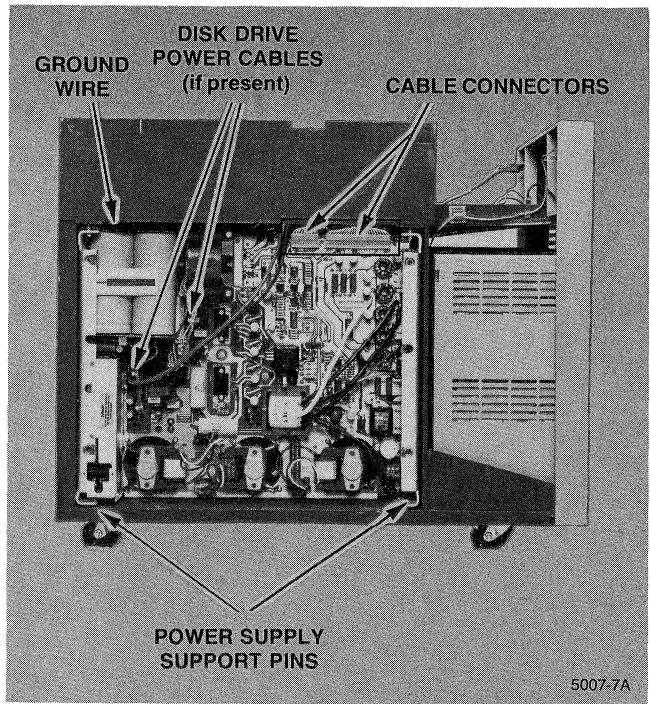

Figure 14. Power Supply Connections and Mounting.
6. Lift the power supply until the support pins (Figure 14) disengage. Pull the supply toward you to remove.
7. Remove the power supply ground wire and cable connectors, noting the polarity and connector numbers for replacement (Figure 14).